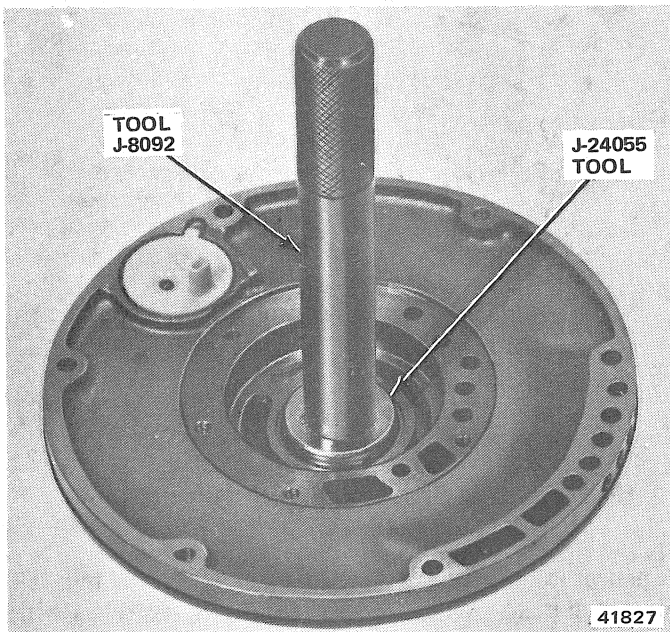

Fig. 2C-65 Pump Bushing Installation—Model 727
(13) Thread Bushing Installer Tool J-24038 onto Driver Handle J-8092 (fig. 2C-67).
(14) Position replacement bushing on installer tool and install bushing straight into shaft bore until tool bottoms.